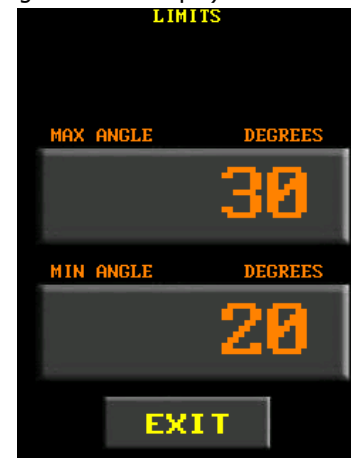

Figure 5.18-2: Set Min and Max Angle
4. Set the Minimum and Maximum Angle Limits. Select the “Min Angle” or “Max Angle” buttons (Figure 5.18-2) and enter the values using the keypad. Min Angle may be set to 0.